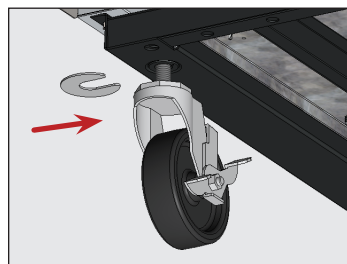

Fig. 9. Insert the castor shim(s). be sure to tighten the castor stem.
5. On the low end of the appliance, loosen the castor bolt enough to slide provided castor shims between the castor bearing race and the bottom rail of the appliance. See fig. 9.
6. Install the desired number of shims. See fig. 9.